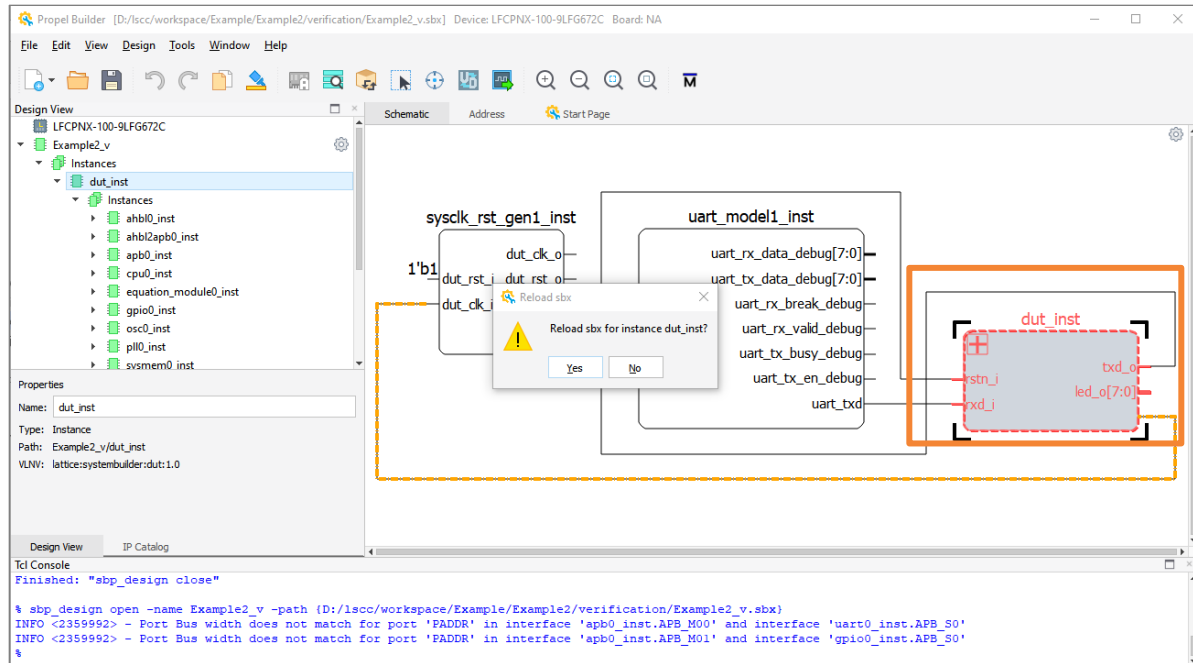

Figure 2.164. Reload dut\_inst after Each SoC Project Design Change
- c. **Reload** dut\_inst to synchronize the SoC design change to verification project. Double click on dut\_inst to do the reload (Figure 2.164).